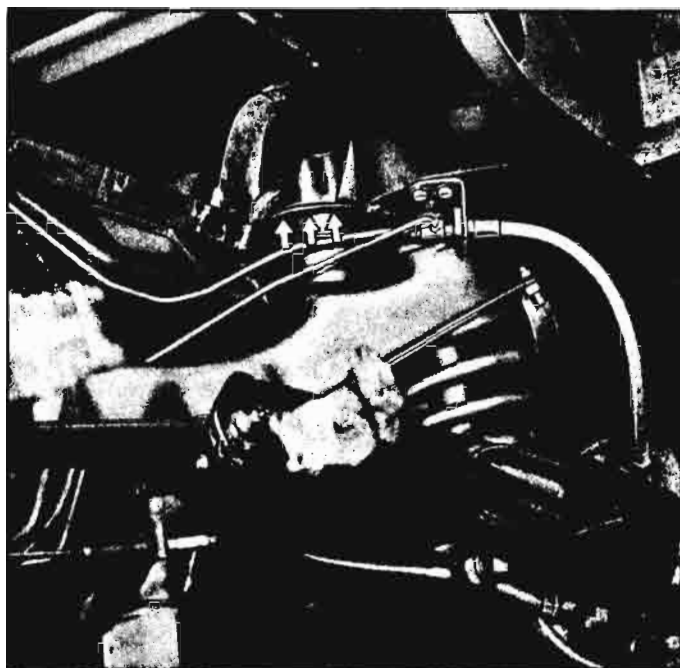

Fig. 10-9—Spot Weld Area—Rear Mount
2. Using Tool J-8943 or its equivalent, drill out spot-welds holding cup assembly to body frame member (fig. 10-9). Remove arc welds by grinding.